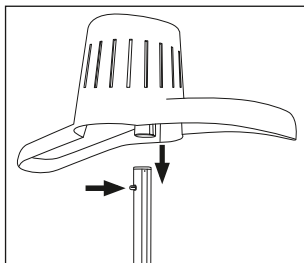

Fig. 1: Attaching the hanger **1**
- To remove the telescopic shaft ❹ again if necessary, press the release button  ❼ and pull out the telescopic shaft ❹.
- ◆ Adjust the height of the telescopic shaft ❹. Open the locking clip ❸, pull out the telescopic shaft ❹ to the desired height and tighten the locking clip ❸ again. Pull the telescopic shaft ❹ far enough out so that the hanger ❶ can be attached.
- ◆ Place the hanger **1** on the telescopic shaft **4** so that the curved arms face the front of the appliance. Push the locking stud **2** in and slide the hanger **1** over it until the locking stud **2** engages (Fig. 1).